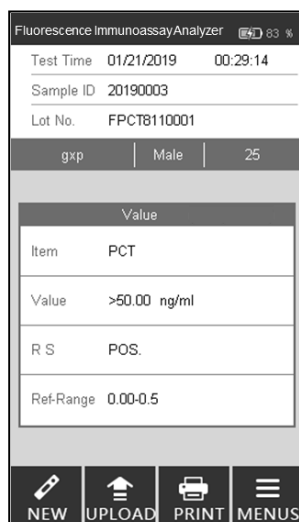

Fig 31
Step 8: The results will display after testing. (Ref Fig 31)
Step 8: The results will be displayed when test is completed. (Ref Fig 31)